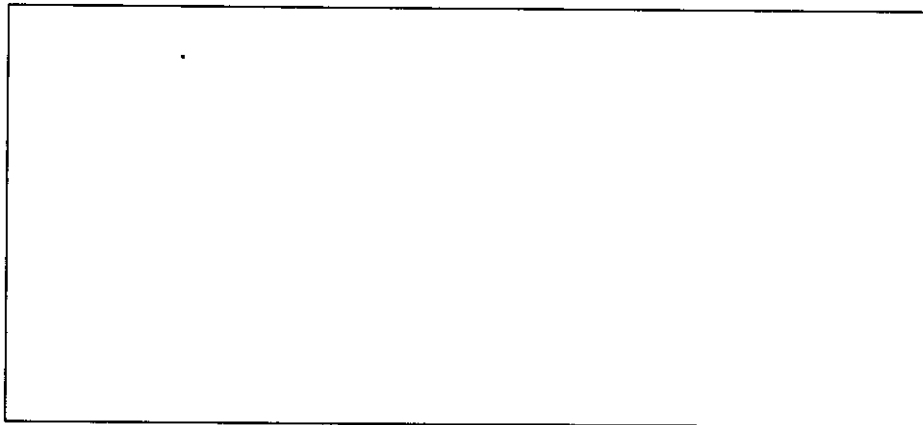

Figure 5-4
- 2) Set the audio oscillator output to -25 dBm, 300Hz and adjust RV101 on the CPU PCB for a deviation of 4.5 KHz +/- 300 Hz. (See Fig. 5-4.)